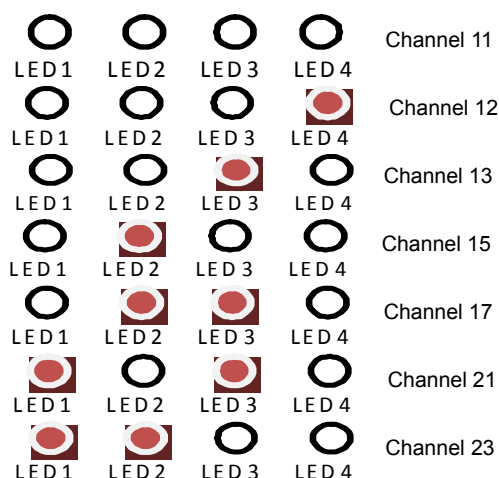

Figure 6-3. Binary Channel LED Display (partial)
- By pressing SW1 or SW2, the LEDs display the current channel number (using binary) as shown in Figure 6-3. The LED display is persistent for few seconds to allow users to see which channel is currently selected. Channels range from 11 to 26 and only a partial list is shown in Figure 6-3.